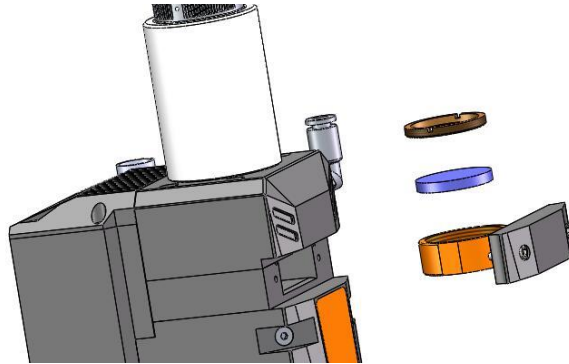

Figure 13. Protective windows of collimate lens.
(1) Loose the two screws showed in figure 13, and carefully take out of the lens with cover slide drawer;
(2) Take out of the **screw ring** by tools properly and take out of the lens using your fingers after putting on fingerstall;
(3) Cleaning the lens, cover slide drawer and **screw ring**;
- (4) Put the cleaned lens back into the cover slide drawer; (No difference in pros and cons)
- (5) Put the **screw ring** back to the cover slide drawer;
- (6) Put the protective windows unit back into the cutting head and then tighten the two screws.